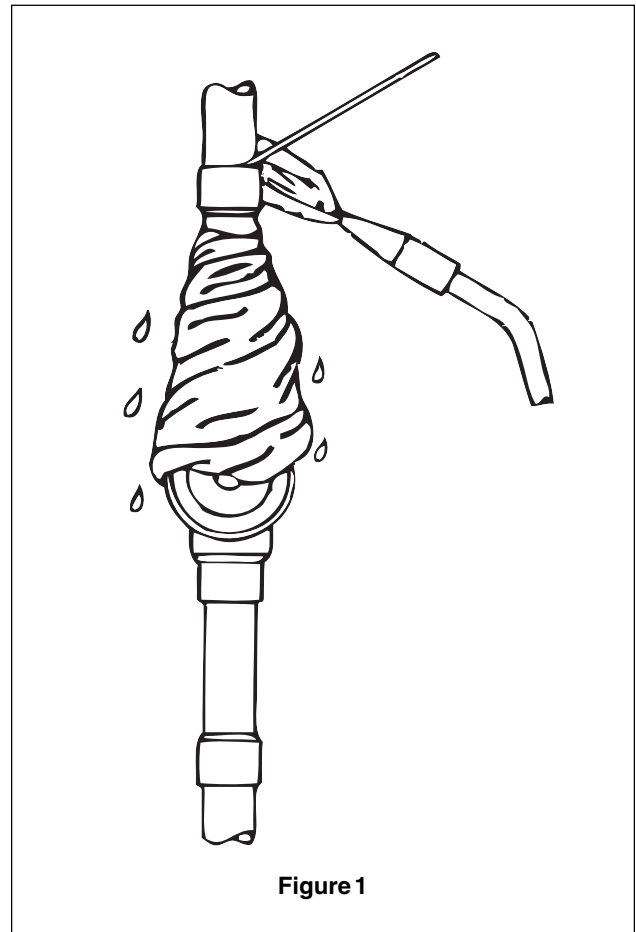

Figure 1
2. Extended cooper connections with bar stock body permits use of any soft solder or commonly used brazing alloys. When soldering or brazing, direct the flame away from the body. Wet rags or chill blocks must be used when brazing to prevent damaging the Moisture Liquid Indicator. See Figure 1.